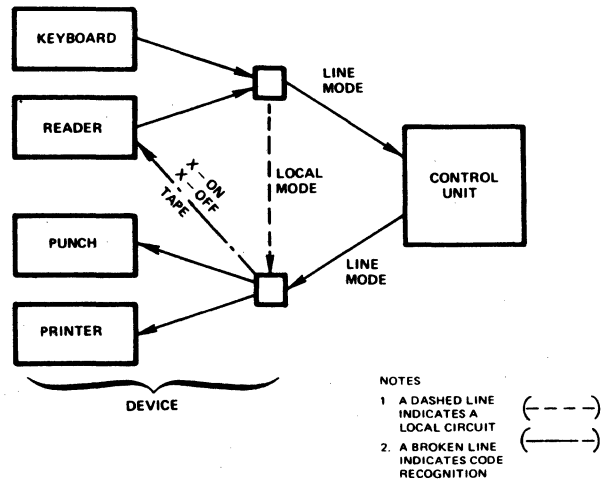

Figure 5-5. Teleprinter Interconnections in Local and Line Modes
- o In the LOCAL position, the device is offline, in the half-duplex mode (offline tape generation and duplication). Figure 5-5 indicates the interconnection of the various components during LOCAL and LINE operations.